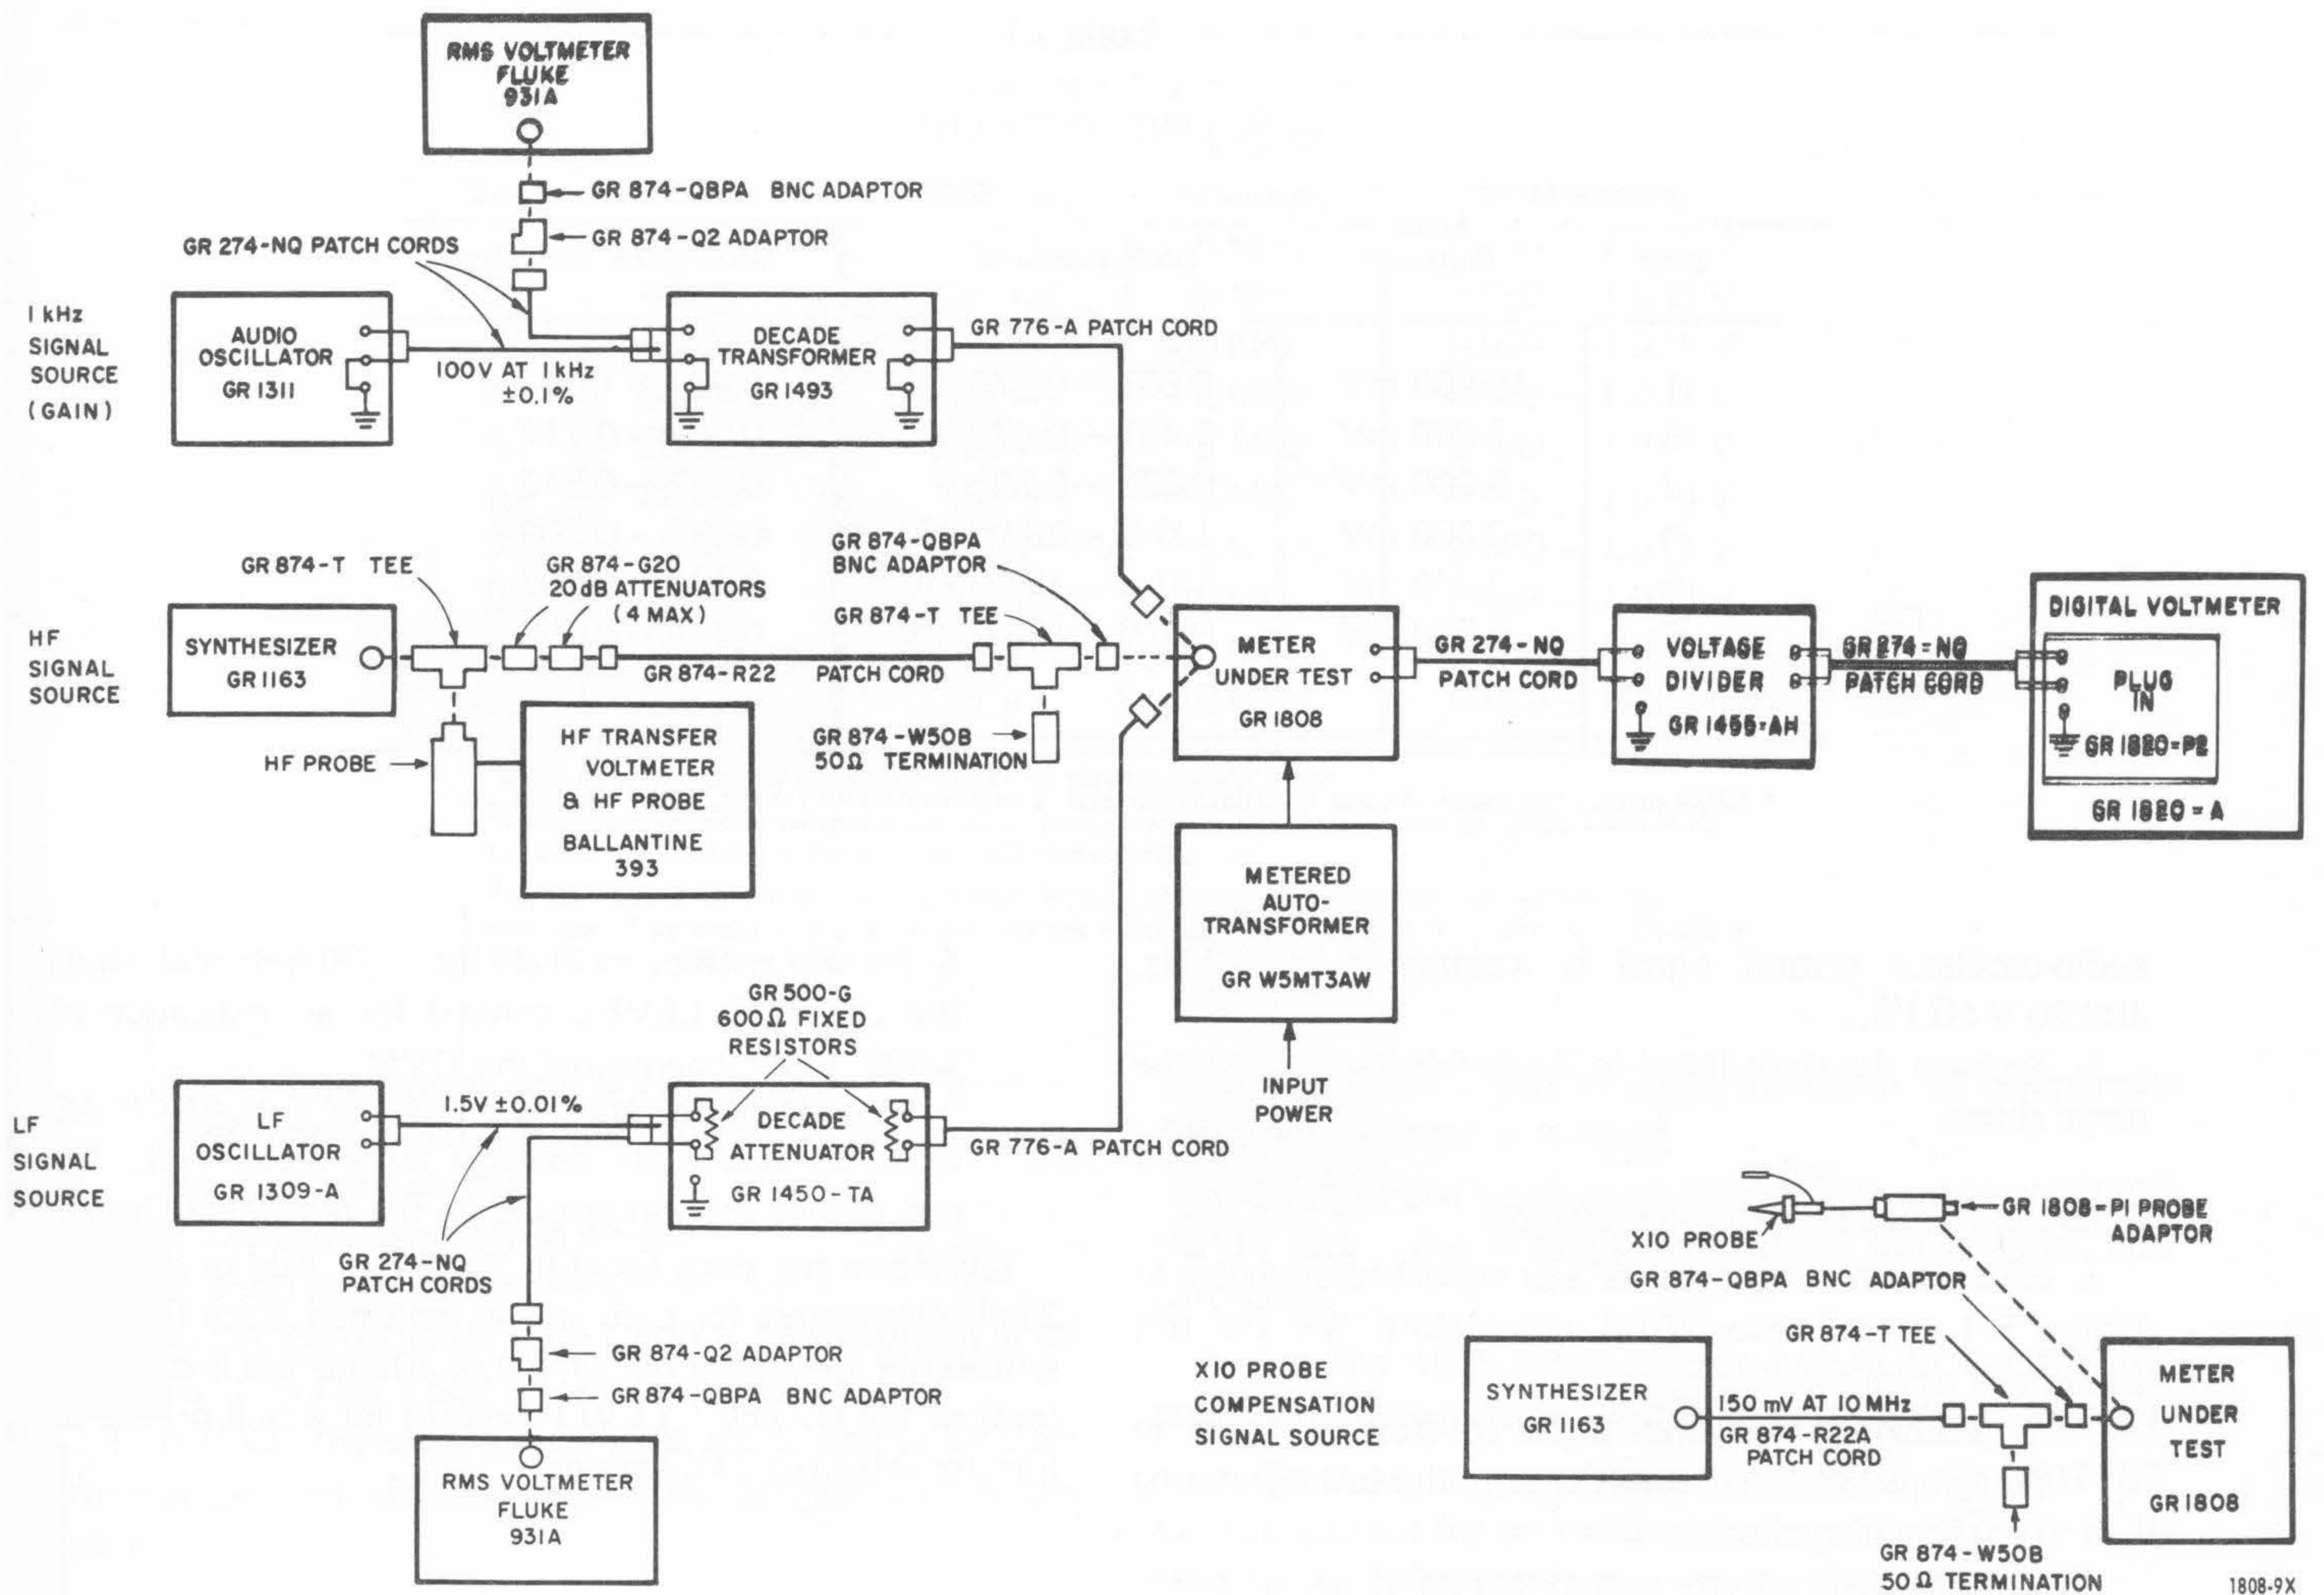

Figure 5-1. Typical Test Setup.
Table 5-1 lists the test equipment required to accomplish minimum performance checks, calibration procedures, probe compensation, and trouble analysis. A typical test setup for all service and maintenance checks is shown in Figure 5-1.
a. Establish the test setup for a 1-kHz signal source shown in Figure 5-1. Set the test equipment controls as follows:
5. Check that all equipment ground links are attached or removed from input/output terminals as shown in Figure 5-1.
a. Establish the test setup for a hf signal source shown in Figure 5-1. Install two 20-dB attenuators. Set the test equipment as follows:
a. Establish the test setup for a lf signal source shown in Figure 5-1. Set the test equipment controls as follows:
while Figure 5-1 shows a typical test setup. To compensate the probe, proceed as follows: